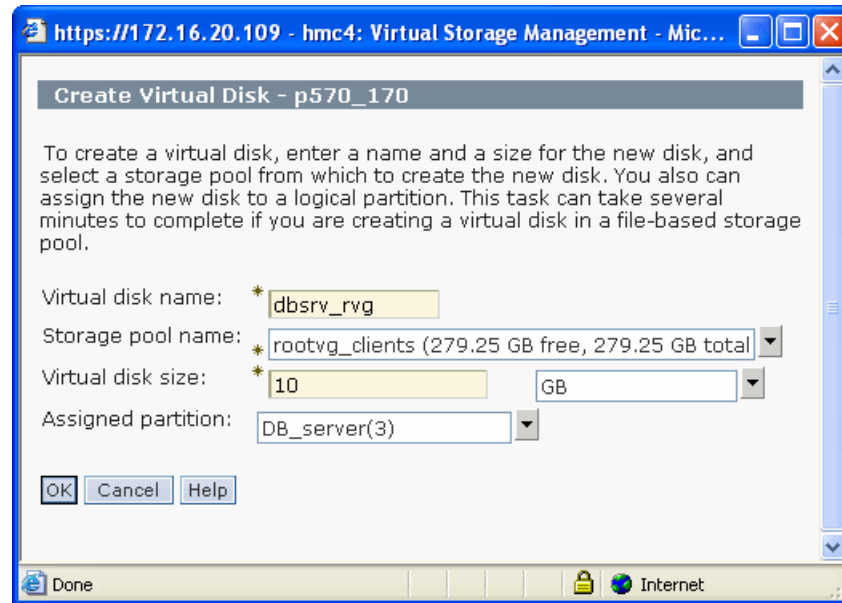

Figure 16-13 Creating a virtual disk using the HMC
5. Change to the **Virtual Disks** tab and start creating the virtual disks by clicking the **Create virtual disk** button. A window as shown in Figure 16-13 on page 474 will appear. You have to define the name of the virtual disk in the **Virtual disk name** field. Then select in which storage pool the virtual disk will be created by using the **Storage pool name** pull down menu. The size of the virtual disk is specified in the **Virtual disk size** field.
Figure 16-13 shows the creation of a 10 GB virtual disk called `dbsrv_rvg` that will be assigned to partition `DB_server`.